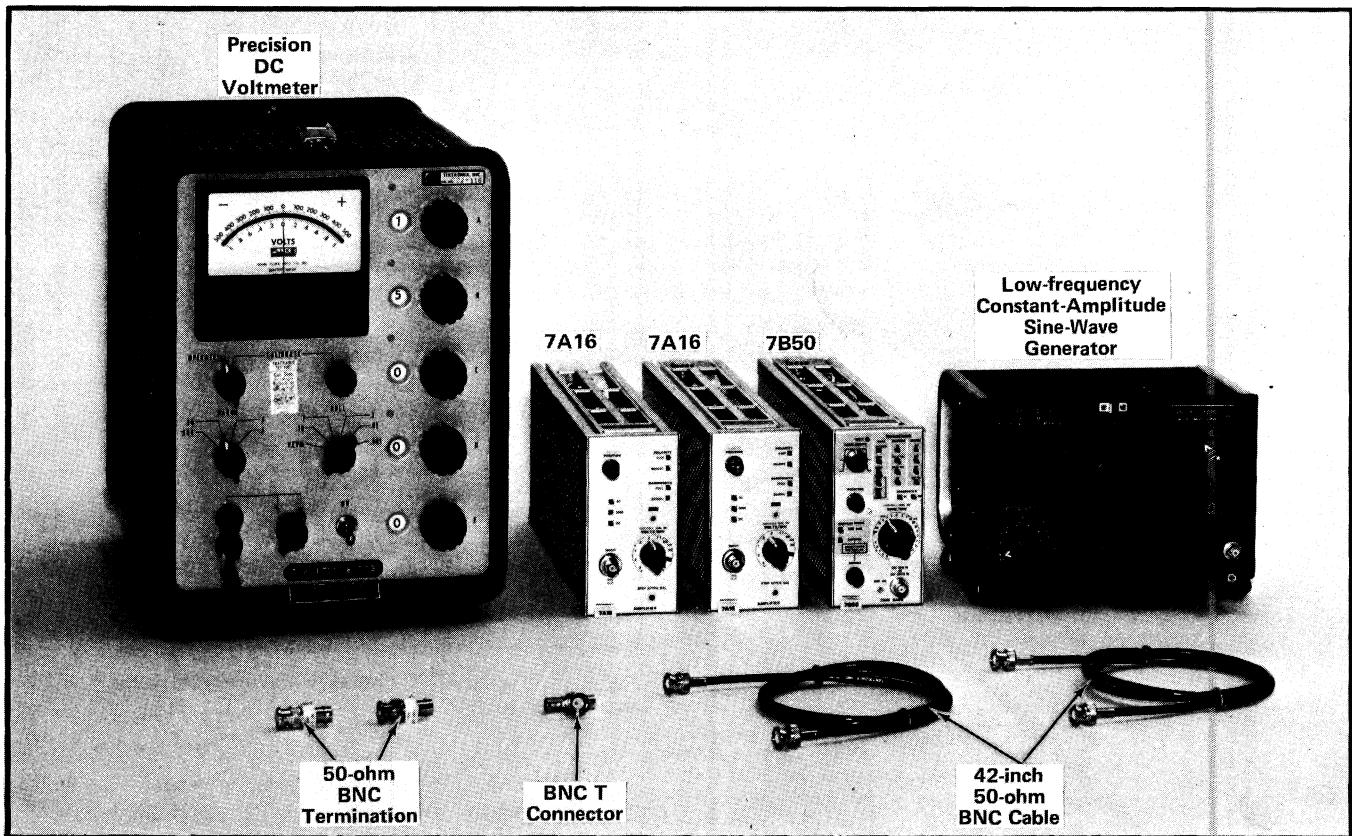

Fig. 5-16. Test equipment required for steps 35 through 39.
- Test equipment required for steps 35 through 39 is shown in Fig. 5-16.